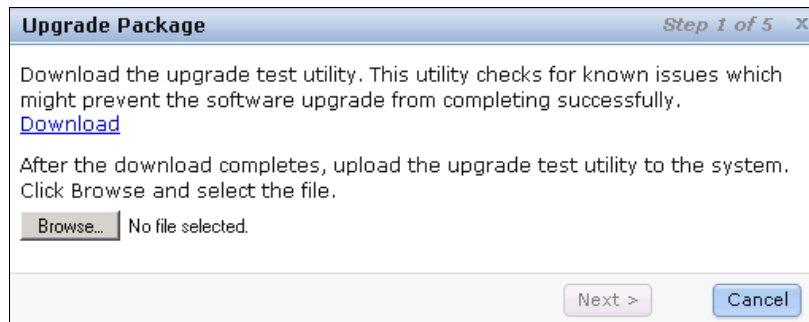

Figure 13-10 Upgrade Package window
4. Click **Launch Upgrade Wizard** to start the upgrade process. You are redirected to the window shown in Figure 13-10.